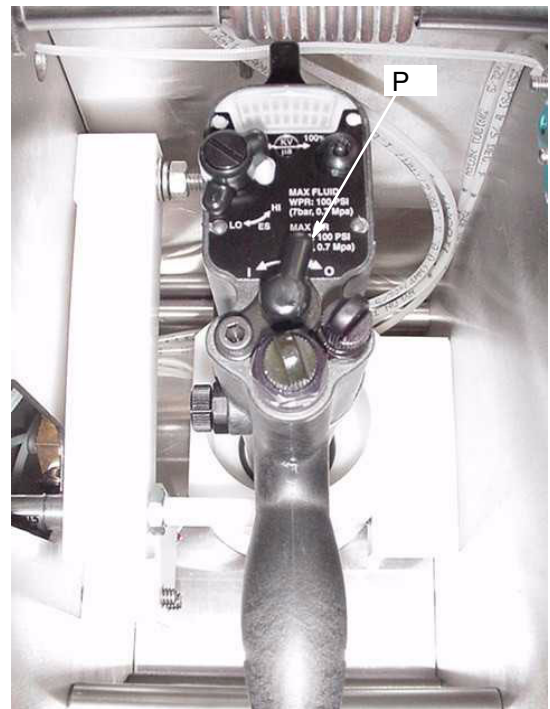

Fig. 9
- ____ 2. If using electrostatics, all operators are properly trained to safely operate an electrostatic spray system. Operators must always turn off the electrostatics (P) before placing the spray gun in the Gun Flush Box. See Fig. 9.